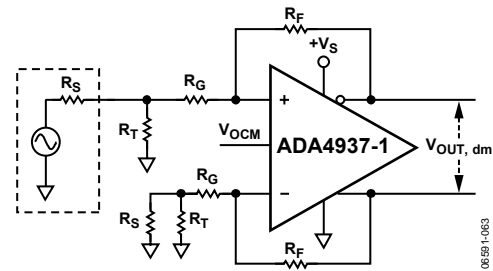

Figure 49. ADA4937-1 Configured for Unbalanced (Single-Ended) Input
For an unbalanced, single-ended input signal (see Figure 49), the input impedance is
**Table 10. Single-Ended Ground-Referenced Input, DC-Coupled,  $R_S = 50 \Omega$ ; See Figure 49**